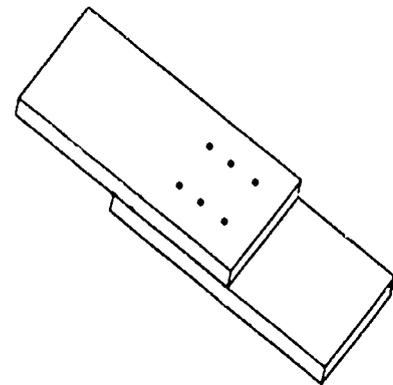

Figure 3. Fastener 2: the screws are spaced evenly.
3. **Fastener 2* - Screws:** The next two boards must be screwed together. First, evenly space six screws. Then drill the holes, countersink the screw holes, and place the screws (see Figure 3). These boards can also be fastened at right angles.